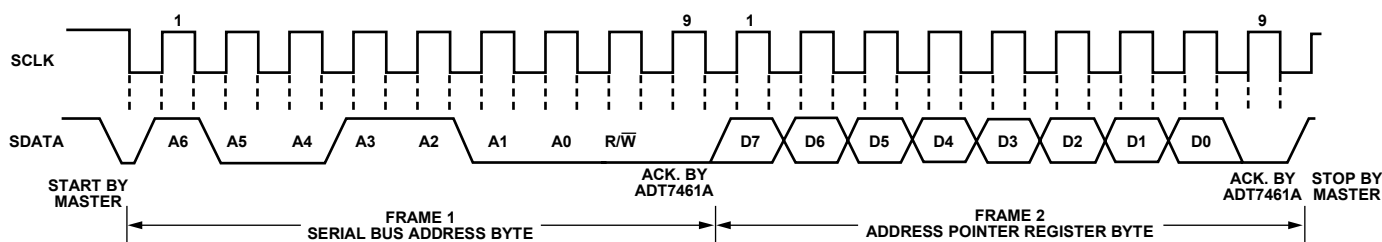

Figure 17. Writing to the Address Pointer Register Only
- If the address pointer register value of the ADT7461A is unknown or not the desired value, it is first necessary to set it to the correct value before data can be read from the desired data register. This is done by writing to the ADT7461A as before, but only the data byte containing the register read address is sent, because data is not to be written to the register (see Figure 17).
- If the address pointer register is known to be at the desired address, data can be read from the corresponding data register without first writing to the address pointer register and the bus transaction shown in Figure 17 can be omitted.